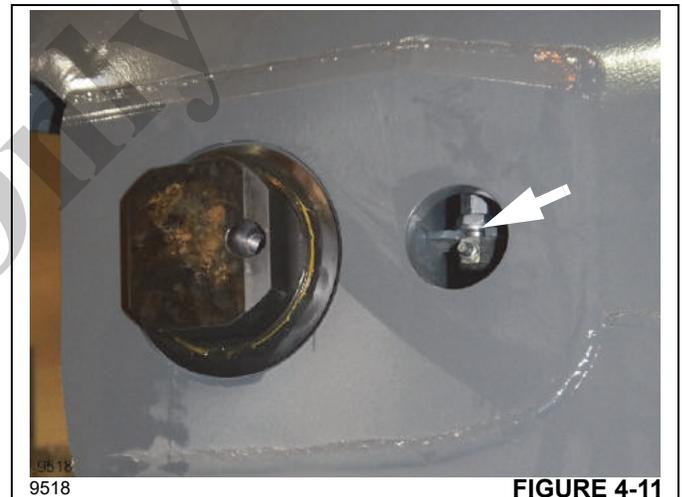

FIGURE 4-11
2. Install the wear pads (48).
3. Install the plates (42, 43) and wear pads (41).
4. Install the guide pilots (44).
5. Install the plates (39, 40) and wear pads (38).
6. Place the wear pad (34) on the section and insert strips (37) inside.
7. Secure the wear pad (34) with the plate (35).
8. Install the opposite wear pad (34), shims (37), and plate (35).
9. Assemble the lubrication hoses (60) and connect to the wear pads (34).
10. Attach the thin nuts (62) and pipe unions (59, 61) to the lubrication hoses and secure the hoses to the tabs (Figure 4-11) inside the section.